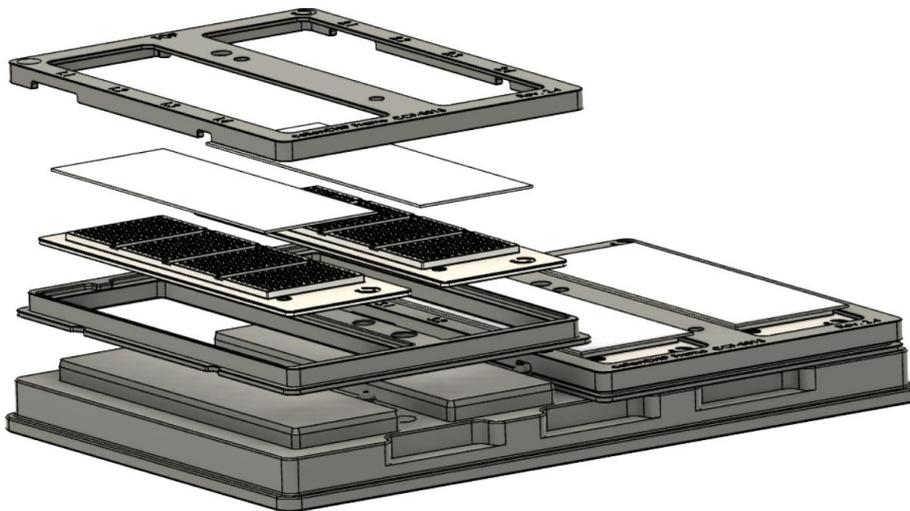

Fig 4. Assembly of cellenCHIP 384, cellenCHIP 384 Holder and cellenCHIP 384 Print Platform.
- e) Once centrifuged, take the ensemble of the **cellenCHIP 384 RTready** and **cellenCHIP 384 Holder** and place them onto the **cellenCHIP 384 Printing Platform** as represented in Fig 4.